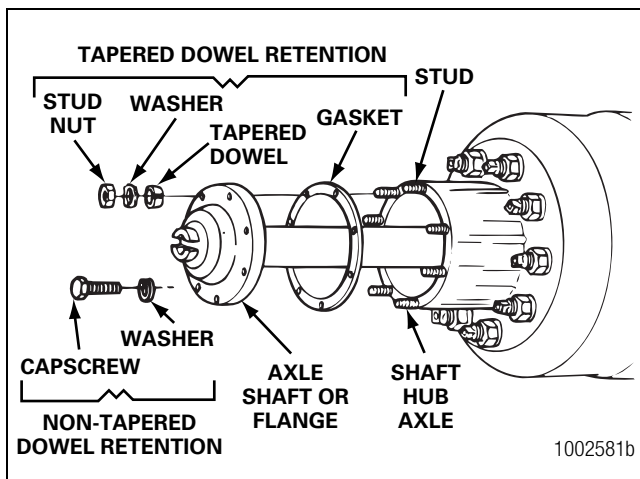

Figure 11.11
6. Remove the stud nuts or capscrews and washers from the flange of the axle shaft. Figure 11.11.
7. Loosen the tapered dowels, if used, in the flange of the axle shaft. Figure 11.11. Refer to Section 3.
9. Remove the tapered dowels, gasket, if used, and the axle shaft from the axle assembly. Figure 11.11.
5. Install the gasket, if used, and axle shaft into the axle housing and carrier in the same location. The gasket and flange of the axle shaft must be flat against the hub. Rotate the axle shaft or the driveline as necessary to align the splines and the holes in the flange with the studs in the hub. Figure 11.11.